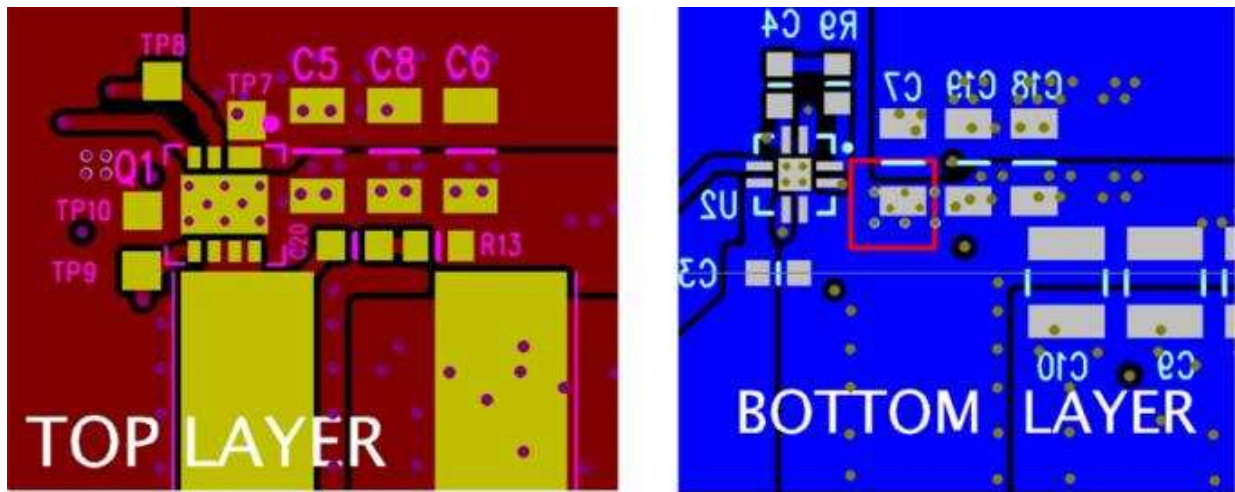

Figure 33. Recommended PCB Layout (Top Down)
- The placement of the input capacitors relative to the power block's VIN and PGND pins should have the highest priority during the component placement routine. It is critical to minimize these node lengths. As such, ceramic input capacitors need to be placed as close as possible to the VIN and PGND pins (see Figure 33). The example in Figure 33 uses 6 × 10-μF ceramic capacitors (TDK Part # C3216X5R1C106KT or equivalent). Notice there are ceramic capacitors on both sides of the board with an appropriate amount of vias interconnecting both layers. In terms of priority of placement next to the power block, C5, C7, C19, and C8 should follow in order.
- The switching node of the output inductor should be placed relatively close to the power block VSW pins. Minimizing the node length between these two components will reduce the PCB conduction losses and actually reduce the switching noise level. In the event the switch node waveform exhibits ringing that reaches undesirable levels, the use of a boost resistor or RC snubber can be an effective way to easily reduce the peak ring level. The recommended boost resistor value will range between 1 Ω to 4.7 Ω depending on the output characteristics of driver IC used in conjunction with the power block. The RC snubber values can range from 0.5 Ω to 2.2 Ω for the R and 330 pF to 2200 pF for the C. Please refer to Snubber Circuits: Theory, Design and Application (SLUP100) for more details on how to properly tune the RC snubber values. The RC snubber should be placed as close as possible to the Vsw node and PGND (see Figure 33).⁽¹⁾
- (1) Keong W. Kam, David Pommerenke, "EMI Analysis Methods for Synchronous Buck Converter EMI Root Cause Analysis", University of Missouri – Rolla
- Use the smallest drill size allowed in your design. The example in Figure 33 uses vias with a 10-mil drill hole and a 16-mil capture pad.